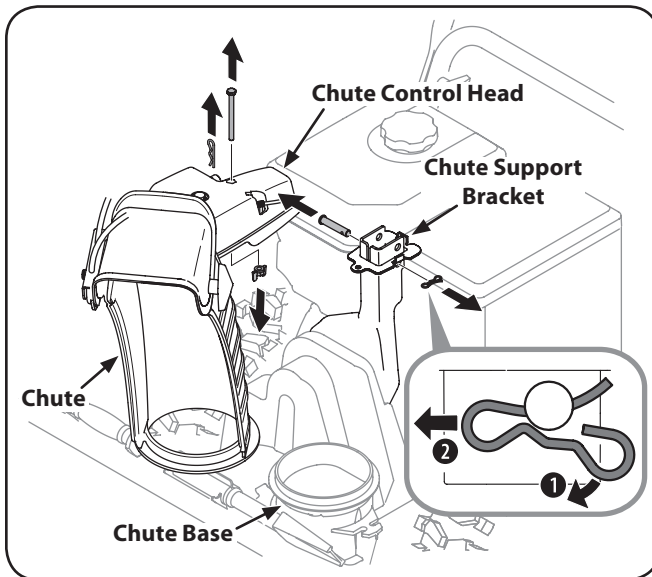

Figure 3-3
1. Remove hairpin clip, wing nut and hex screw from chute control head and clevis pin and bow-tie cotter pin from chute support bracket. See Figure 3-3.
- Finish securing chute control head to chute support bracket with wing nut, clevis pin, and bow-tie cotter pin removed in step 1. See Figure 3-3.